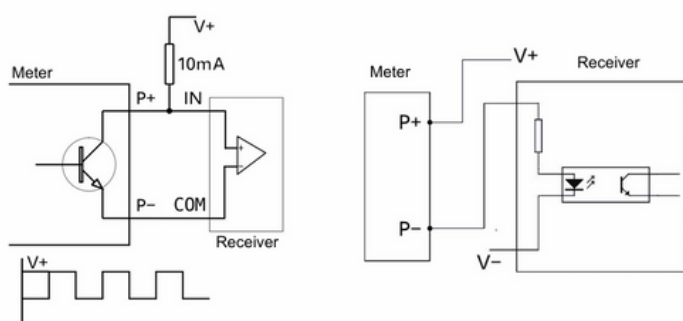

Figure 9
- Pulse wiring examples are shown in Figure 9